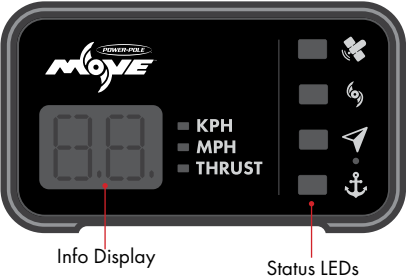

Figure 3
- STEP 7** Reinstall the **Top Housing** so it snaps into place and there is no gap between it and the **Bottom Housing**. **FIG 3**